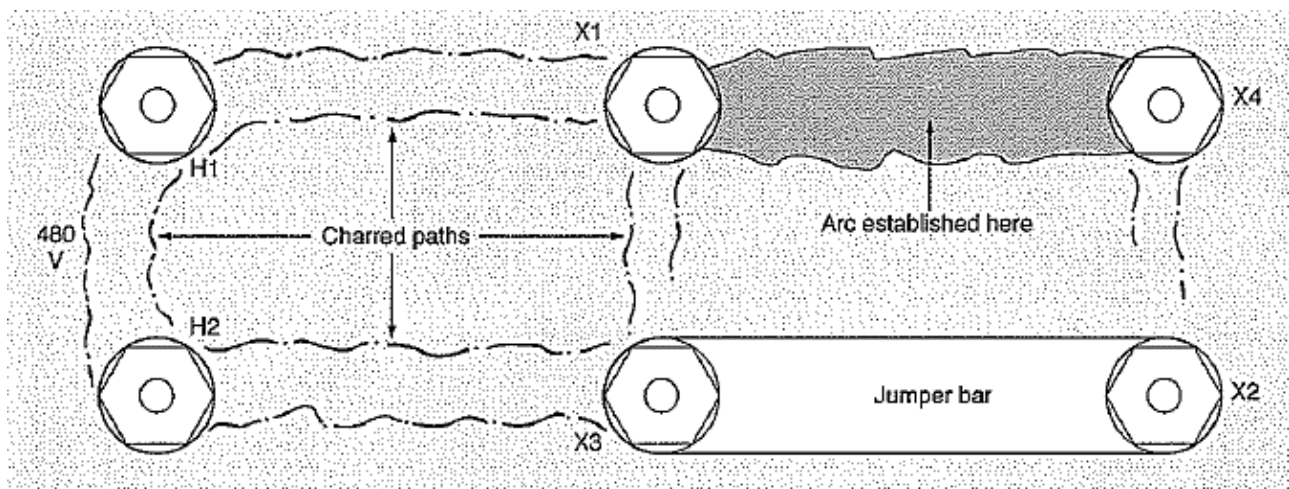

Figure 10.4: Charring on a Transformer Terminal Board
- 10-15 These repeated burnings gradually charred the terminal board. In time, a sufficient carbon path was formed between two of the transformer terminals, causing a major arc that tripped the circuit breaker. A diagram of the terminal board and the charred areas is shown in Figure 10.4.